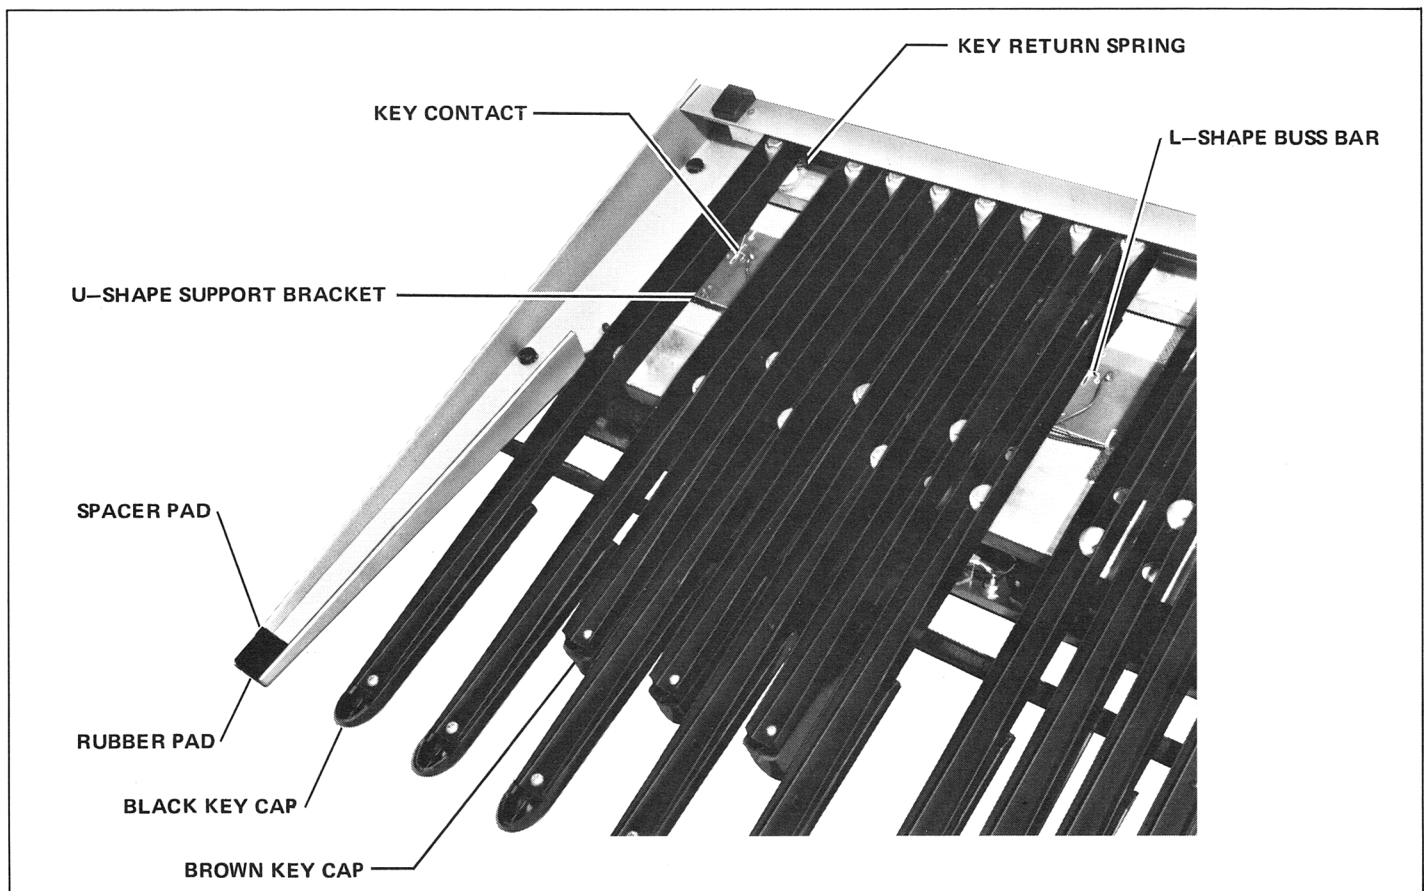

FIGURE 3-2 BOTTOM VIEW
d) To replace a key contact, unsolder the 2 (two) U-shape support brackets and lift the key contact out. (Note general location of key contacts on Figure 3-2).